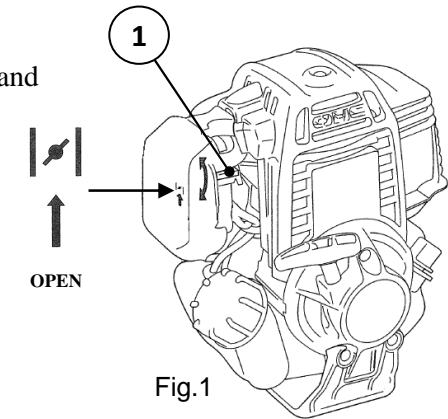
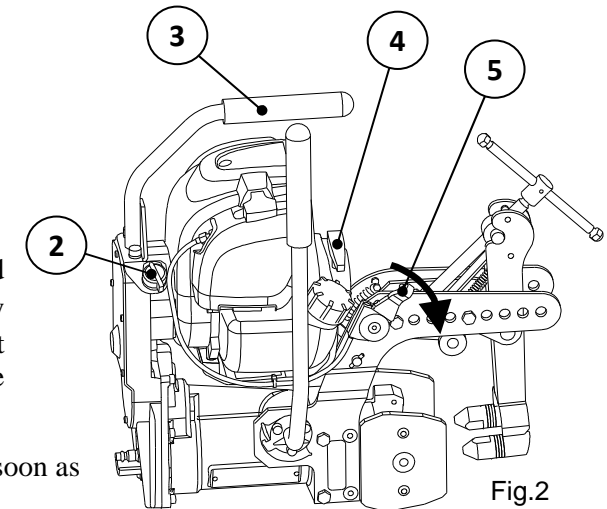

Fig.1
Fig.2
② Bring the accelerator lever ⑤ to the “fast” position (forwards to the maximum stop).
③ Adjust the starter lever ① (see Fig. 1) according to the ambient temperature and engine temperature:
④ To make engine starting easier, a number of positions can be adopted to remain stable: upright, bending forward or on the knees. Hold the carrying handle ③ in the left hand. With the right hand, pull the starting grip ④ slowly upward until you feel the compression, then give a sharp pull. Never pull out the whole length of the rope. Do not release the grip and allow it to return suddenly, but bring it back by hand in the reverse direction to allow the rope to wind up correctly. Never wrap the starter rope around your hand.
⑤ After the first pull, position the starter lever ① to **↑** (see Fig.1) and continue pulling until the engine starts. As soon as the engine is running, bring the accelerator lever ⑤ back slightly to allow the engine to warm up.
⑥ Bring the accelerator lever ⑤ to the “slow” position (back) and leave the machine to run for 30 seconds before using it.
When the drill ② corresponding to the diameter of the hole to be drilled has been fitted to the spindle, position the end of the drill approximately 5 mm from the taper clamps ① (see Fig. 1) and index the lever ④ to the high position (see Fig. 3) (refer to §3.2 "Indexing the spindle advance lever"). The drilling operation will thus take place in a single pass (see Fig. 2).
① **The start of drilling phase:** during this phase, the drill advance into the rail must be slow and as steady as possible.
② **The working phase:** it is important in this phase to correctly control the speed of advance of the tool.